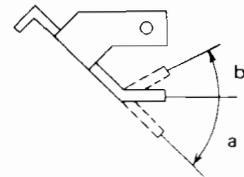

Fig. 1-6 Pause Lever
4. If the gap is less than 0.6mm bend the pause lever in the direction of arrow (a) as illustrated in Fig. 1-6. If the gap is larger than 1.0mm bend the lever in the direction of arrow (b).